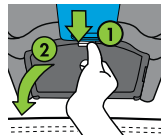

Figure 27
Open LATCH Bin Door by pressing and holding top of Lock Tab (1), then rotating LATCH Bin Door down (2), as shown in **Figure 27**.